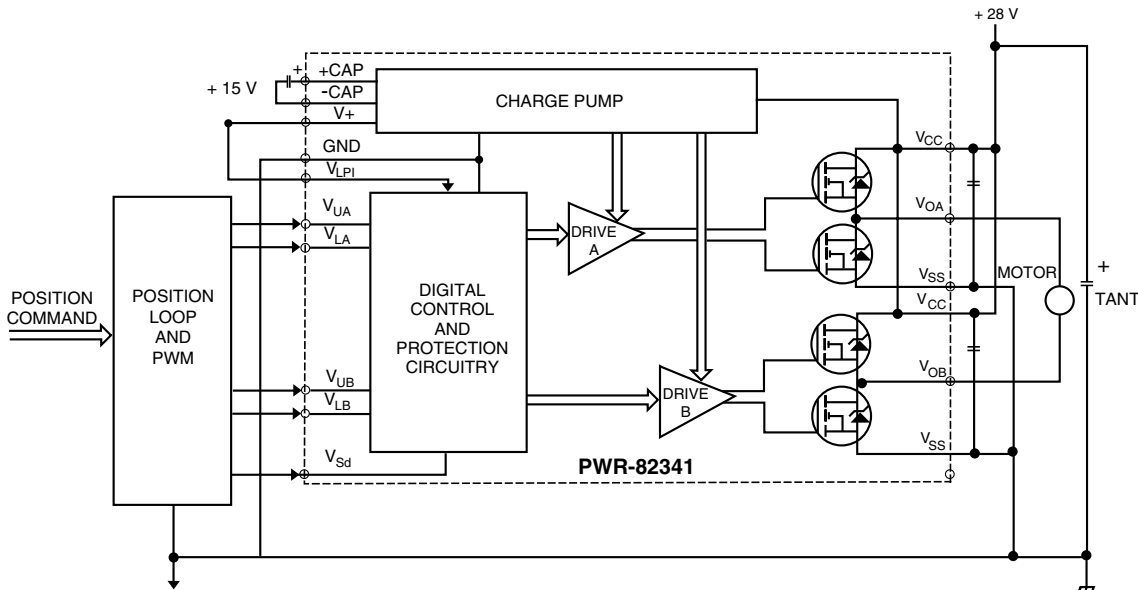

FIGURE 4. TYPICAL INTERFACE WITH A MOTOR AND PWM
The digital inputs have programmable logic levels, which allows the hybrid to be used with different types of control logic with an input voltage range of +5 to +15 V, such as TTL or CMOS logic. The VLpi pin is the logic power input for the digital circuitry inside the hybrid. **A 0.01 μF, 50 V ceramic capacitor must be placed between VLpi pin and GND as close to the hybrid as possible.** When using 5 V control circuitry, an external +5 Vdc power supply must be connected between the VLpi pin of the hybrid, and GND. The control circuitry can be as simple as a PWM, or as sophisticated as a microprocessor or custom ASIC, depending on the system requirements. FIGURE 4 illustrates a typical interface of the PWR-82341 with a motor and PWM in a Servo-Amp System.
The PWR-82341 has an internal charge pump circuit to generate the drive voltage for the high side N-channel MOSFETs (see Figure 4). The charge pump uses an oscillator to charge an external charge pump capacitor, Cc, from the Vcc supply. This oscillator will pump the voltage at the +cap pin (48) of the hybrid higher than Vcc. The hybrid high side drivers use this voltage to ensure proper gate drive.